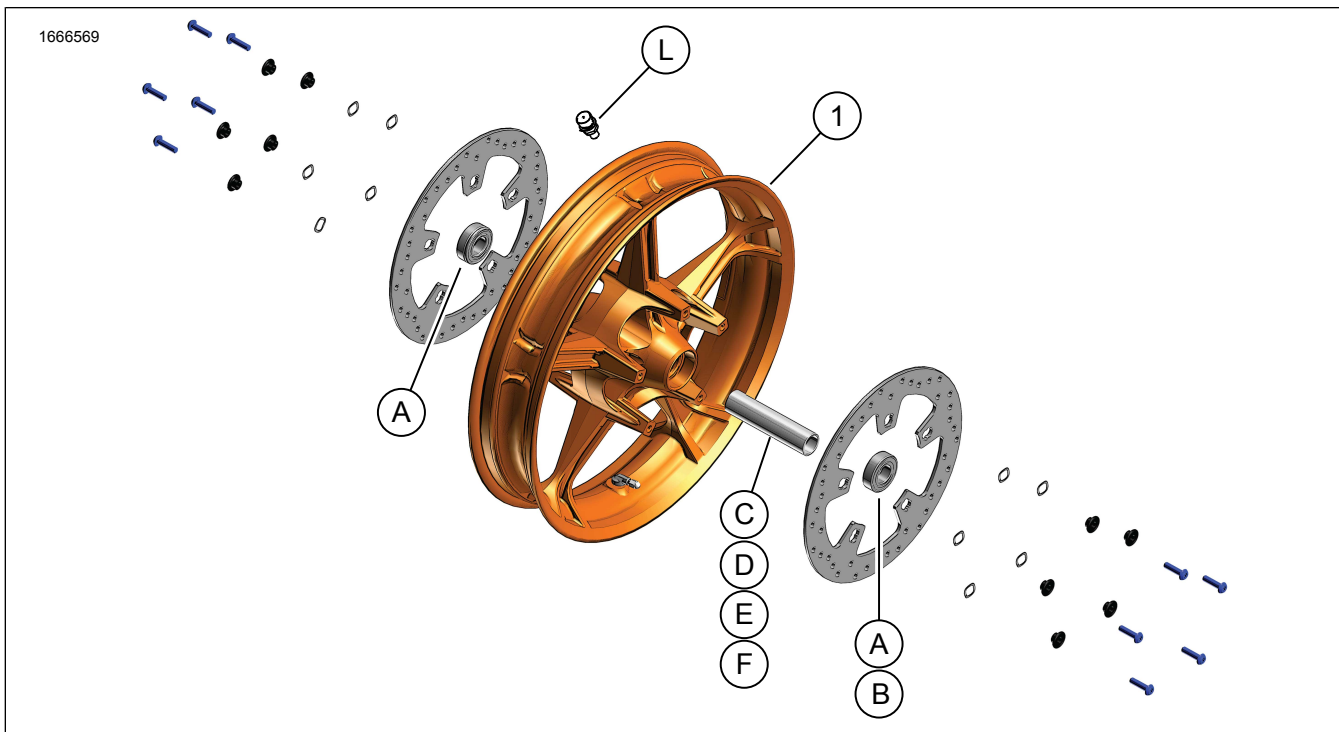

Figure 1. Service Parts: Front Wheel
1. See Figure 1. Install valve stem assembly (N) on wheel. See service manual.